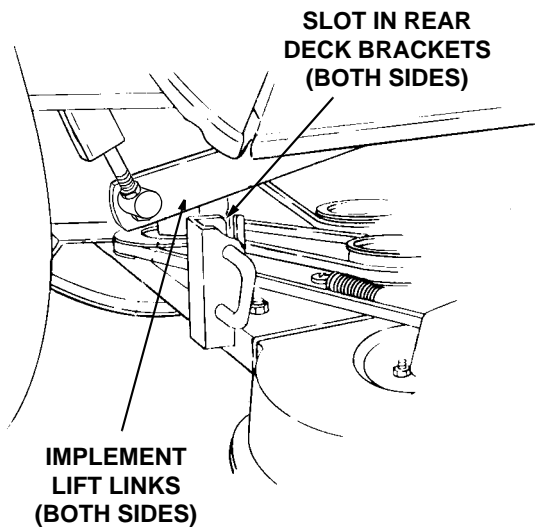

Figure 51
3. Make sure the slot in both rear deck brackets aligns with the implement lift links on each side of the tractor (See Figure 51).